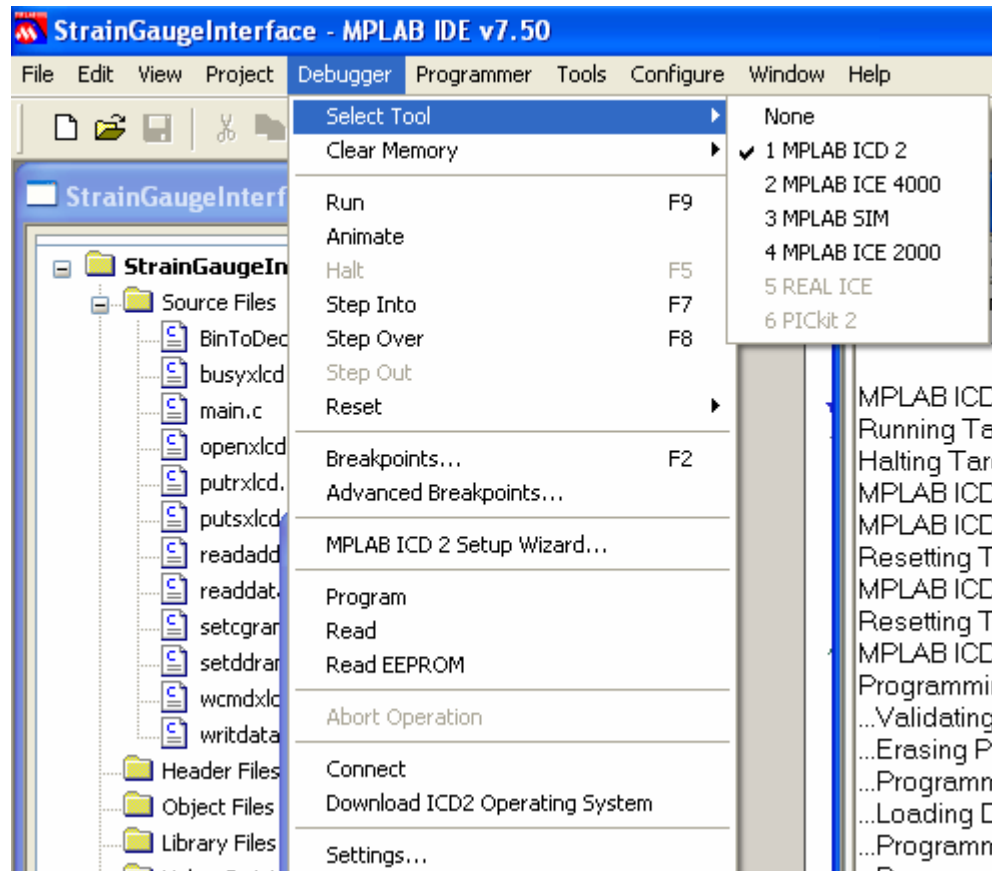

Figure 2. Make sure MPLAB ICD 2 is selected as the debugger
6. You should debug the program before downloading it to the board. To do this: Click on Debugger→Select Tool. Make sure MPLAB ICD 2 is selected. Refer to figure 2.